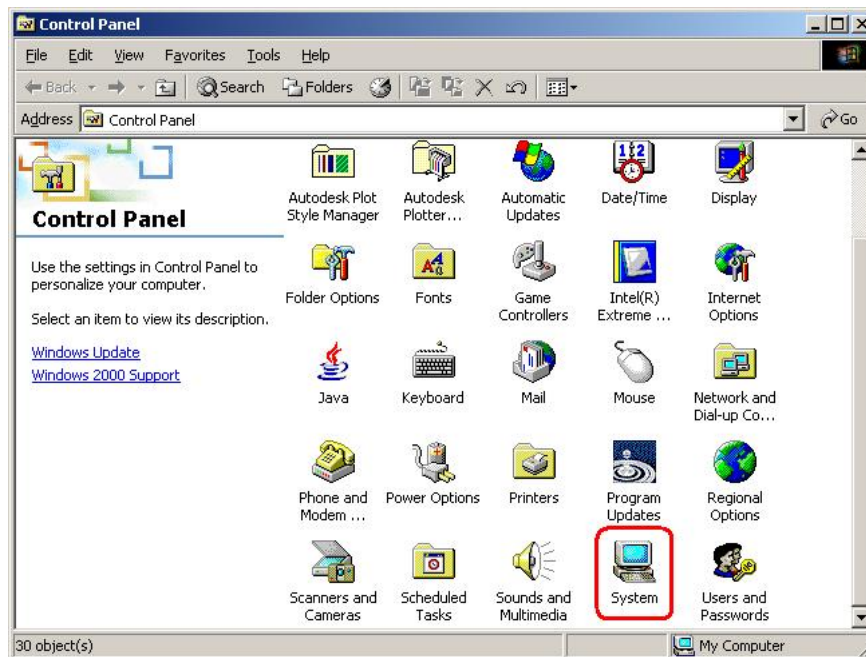

Figure 6-13: Double Click the System Icon
Step 2: Double click the **System** icon (Figure 6-13).